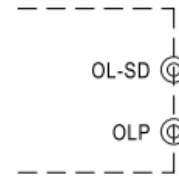

Fig. 5.2 Remove the CN3
1. Insert the shorting connector on CN3 that is shown in Fig 5.2, the Overload Protection Type will be "constant current limiting with delay shutdown after 5 seconds, re-power on to recover. This is the factory default.